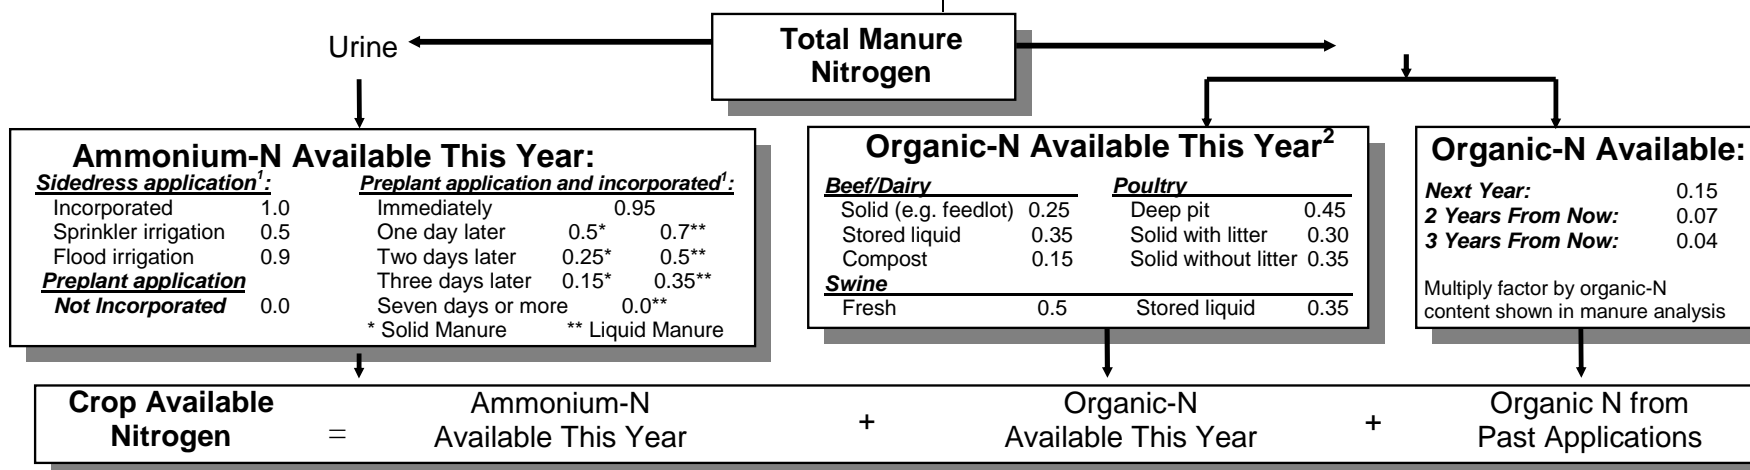

Figure 1. Availability factors for manure nitrogen. (replace with state-specific information)
- Col. e: Fill in the ammonium-N availability factor based on the most applicable situation from the left box in Figure 1.
- Col. h: Enter the organic-N availability factor from the middle box in Figure 1.
- Col. k, l, and m: Organic-N available over the next 3 years can be estimated by multiplying the appropriate availability factor in the right box of Figure 1 by the value in Col. i.
² Organic-N availability assumes spring-seeded crops such as corn and soybeans. For winter or spring manure application prior to planting small grains, multiply organic-N availability factor by 0.7. For late summer or fall manure application prior to planting small grains, use the organic N values shown in Figure 1.